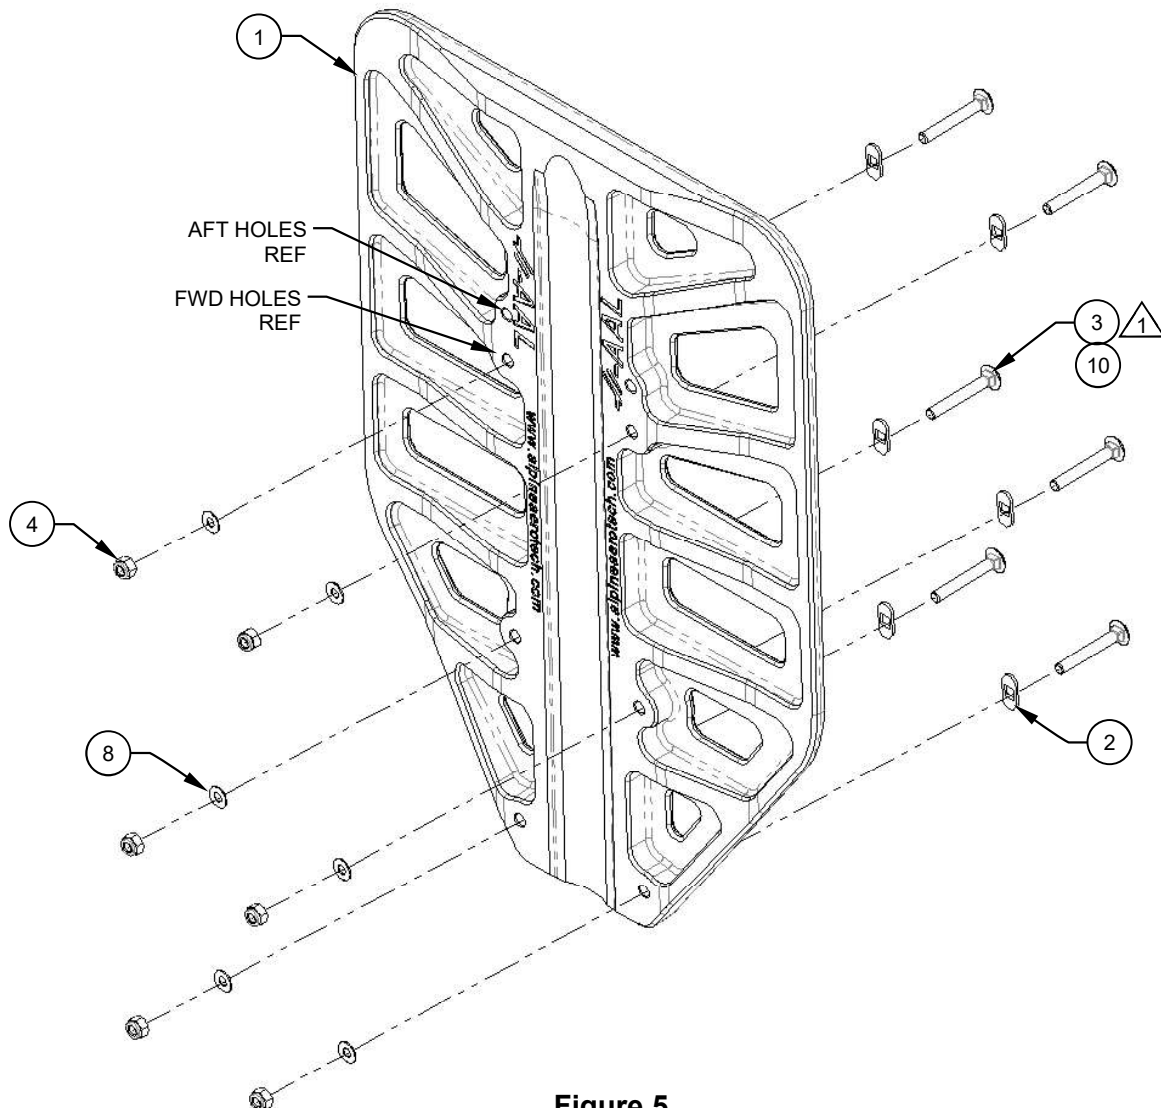

Figure 5
1. Pre-install the supplied hardware as shown. Reference Figure 5. Torque fasteners to 40 in-lbs.
NOTE: Regardless of standard, or Run-On Landing wear strips, the length of the skid shoe varies. Depending on where the skid shoe cross bolt is located, the aft set of Carriage Bolts (Items 3 or 10) will have to be located in either the AFT or FWD set of holes, a trial fit will be required to determine the best location. See Figure 5.